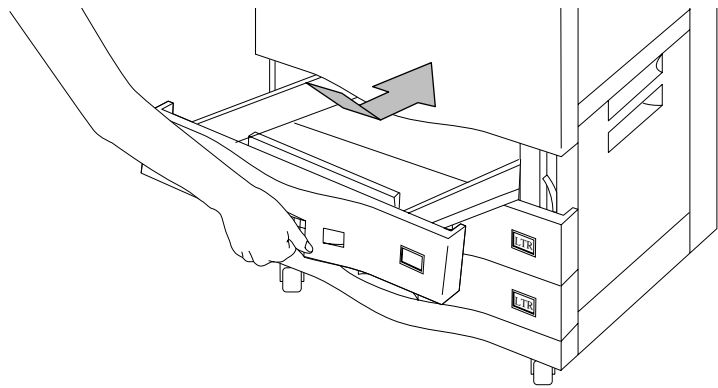

Figure 3-3 Installing Custom Tray
3. Pull out the custom tray as shown in Figure 3-3. Angle the tray up slightly until it disengages the tray guides on either side of the printer, then remove the tray as if it were a standard tray.
4. Install the custom tray as shown in Figure 3-3. Angle the tray down slightly until it engages the tray guides on either side of the printer, then push the tray in as if it were a standard tray.